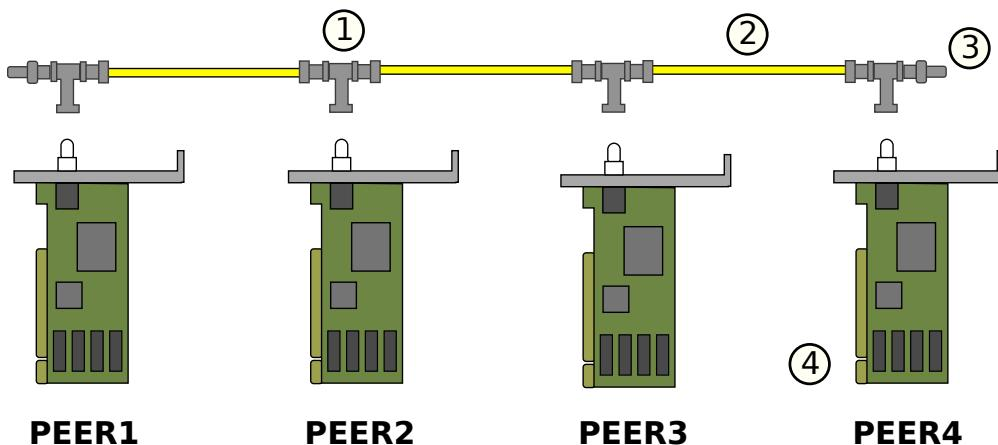

Figure 2.37: 10Base2 BNC based network.
Figure 2.37 shows the four elements of a 1994 LAN. ① the T-piece connector connecting two ② coaxial cables, forming a link. Each end of the chain must be closed with two load terminators ③. The network card connects to both the PC via its ISA bus extension slots ④ and the LAN T-base slots.